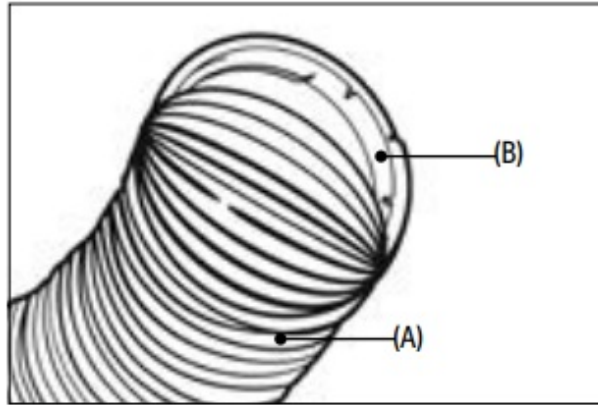

Fig. 1
1. Connect the hose connector (B) to one end of the exhaust hose (A). Fig.1